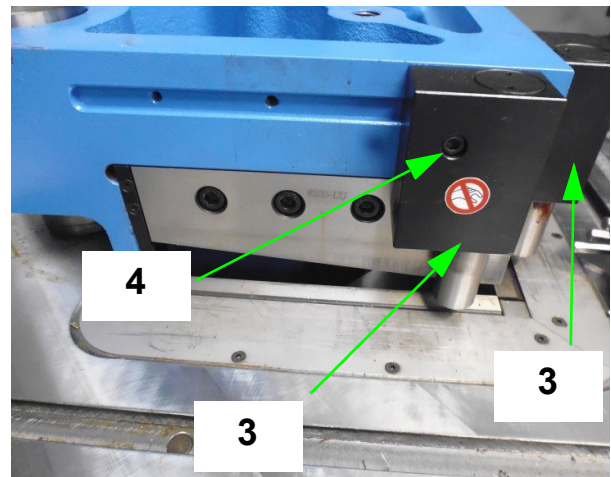

Fig. 16: Change upper knife
Step 4: For disassembling the downholder device 3, unscrew the corresponding fastening screw 4 (Fig.16).